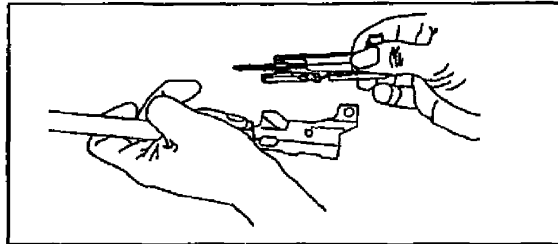

Figure 071-312-4025-29. Attachment of the slide assembly to the piston
(2) Put the bolt assembly into the slide assembly. Press in to compress the firing pin spring. Rotate the bolt and hook its driving lug into the slide assembly (figure 071-312-4025-30).